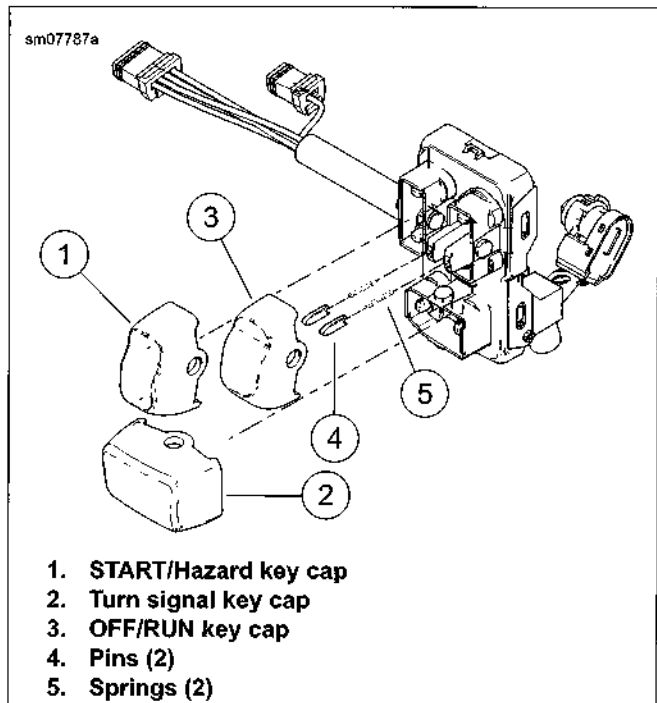

Figure 6-116. Key Caps
See Figure 6-116. Replace the hazard key cap (1) and turn signal key cap (2).